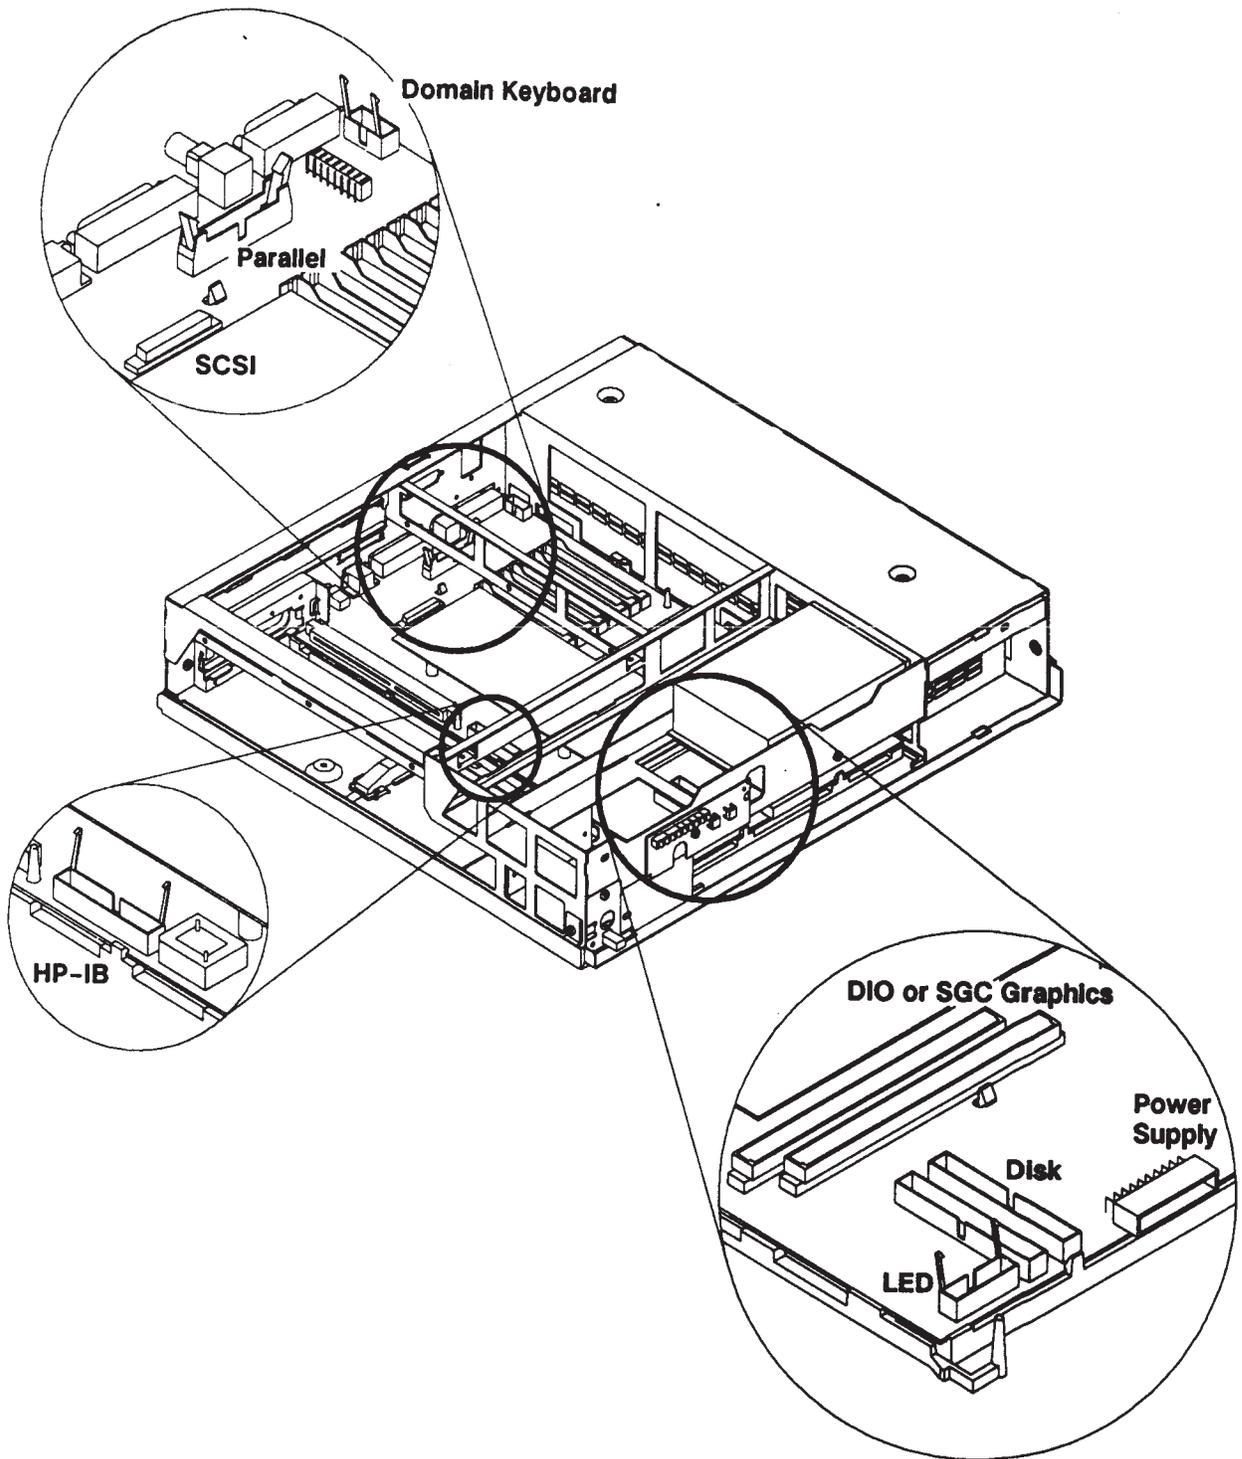

Figure 5-10. Disconnecting Internal Cables from the CPU Board (Model 400t and 400dl)
4. Disconnect all internal cables connected to the CPU board (see Figure 5-10 for the locations of the cable connectors). If the system has two disk drives, remove one drive so that you can easily disconnect the disk drive data cables from the CPU board.